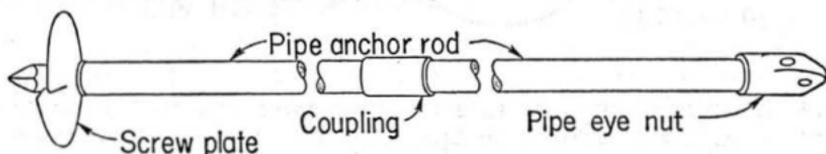

Fig. 1
1.01 Swamp anchors, shown in Fig. 1, are of the screw type and consist of a helical plate, iron pipe for rods and a pipe eye nut for attaching the guy strand.